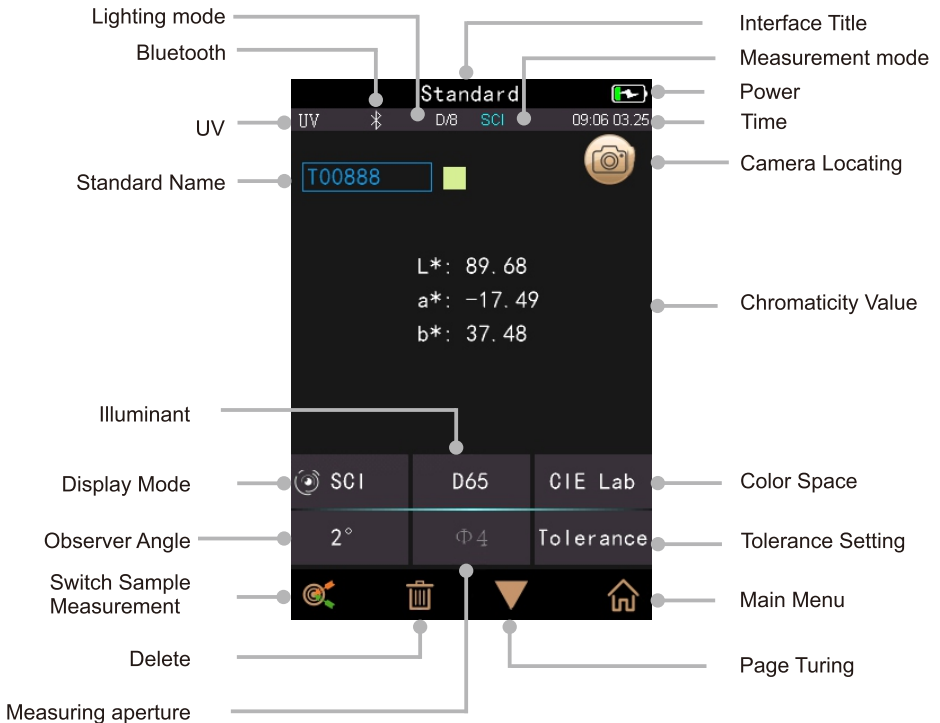
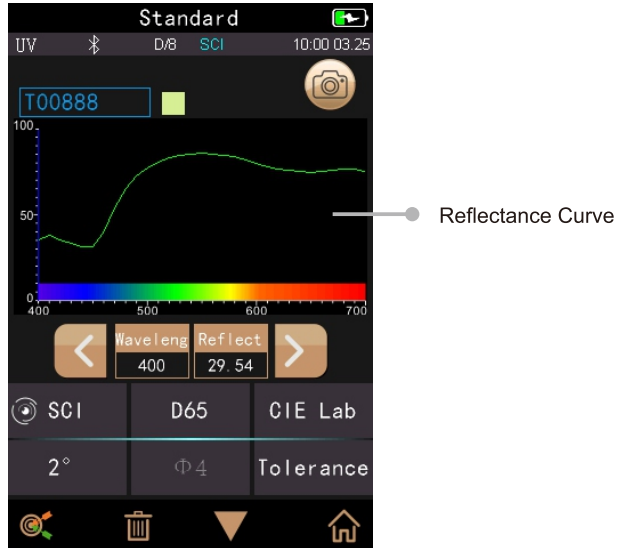

Figure 9 Standard measurement
Figure 10 Reflectance of standard measurement
In the "Standard Measurement" interface, Align the measuring aperture of the instrument to the tested sample and press the "Testing key" tightly. Then there is a "Beep" voice, and the LED indication light will go from flashing to off. After that, a "Beep" voice will come again, and it means measurement finished as shown in Figure 9 and in Figure 10.
- 14) Wavelength switch button: As shown in Figure 10, click or , the wave length and reflectance of the current sample will switch as range of 10nm interval.